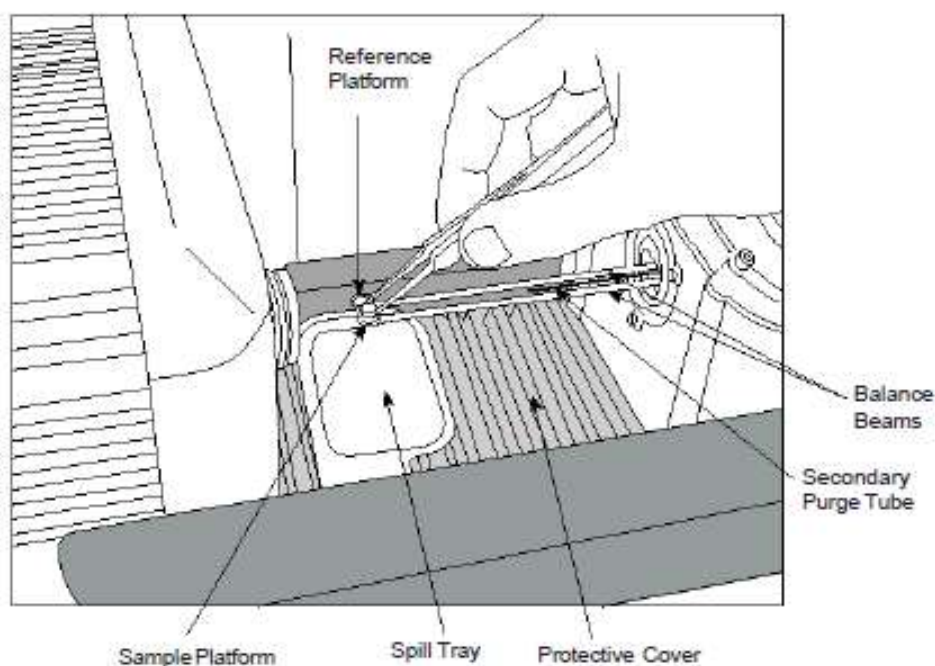

Figure 1. Loading the SDT sample pan.
- To **open the furnace** go to the top of the software and select Control > Furnace > Open. Inside there are two beams (which contain the thermocouple) where the pans area seated (see the Figure 1).
- Place an **empty SDT cup** on the platform for the front **sample** balance position, making sure that it is seated properly (see the Figure 1). To do this rest your hand on the black hand rest, it is useful to use your spare hand to steady the other.
*This depends on the nature of your sample. Below are six (6) suggestions to consider when preparing a sample.*
- To avoid any contamination **put a piece of aluminium foil covering** the protective cover which is below the spill tray (see Figure 1) and rotate the spill tray into position under the beams.
- **Place the sample cup back on** the sample platform, making sure that it is seated properly with the correct orientation (see Figure 1). To do this rest your hand on the black hand rest, it is useful to use your spare hand to steady the other.